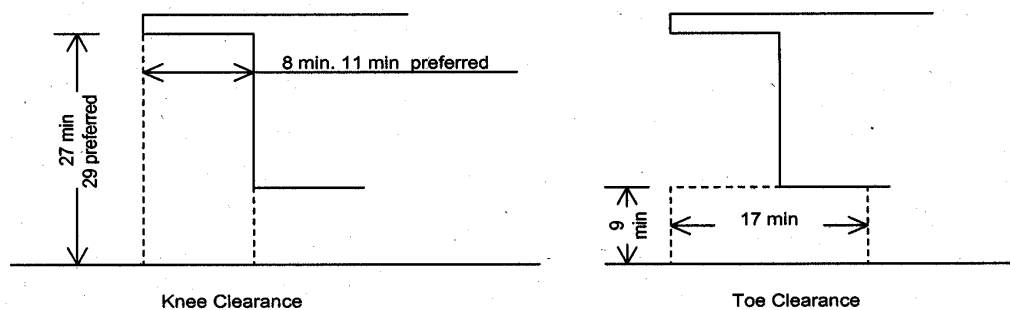

Figure 4: Knee and toe clearances
- Minimum of 27 inches of knee clearance from the floor to the bottom of the apron or counter and at least 8 inches back from the front edge. Toe clearance must extend at least 17 inches back from the front edge at a height of 9 inches above the floor (Refer to Figure 4). Knee and toe clearances must be at least 30 inches in width.